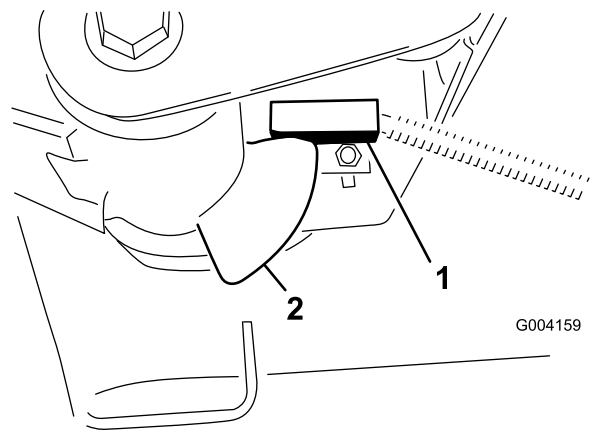

Figure 42
2. The lift arm switch is located underneath the hydraulic tank behind the front right lift arm (Figure 42).
3. Loosen the switch mounting screws (Figure 42) and move the switch down to increase the lift arm turn around height or move the switch up to decrease the lift arm turn around height. Tighten the mounting screws.